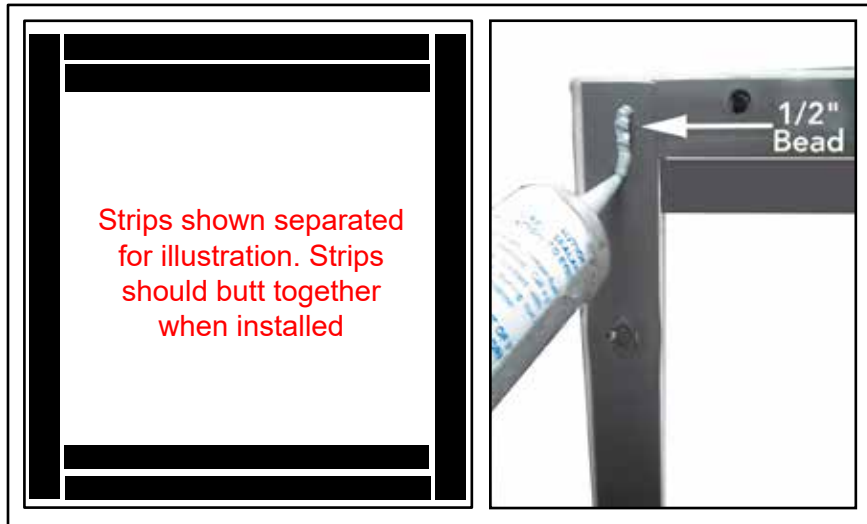

Fig. 4 - Blower dryer load end baffle and U-clip installation.
2. (See Fig. 4 below). Apply one (1) strip of foam on each side and two (2) strips of foam at the top and bottom.
3. Apply a 1/2" bead of sealant on the gaskets (Fig. 4).